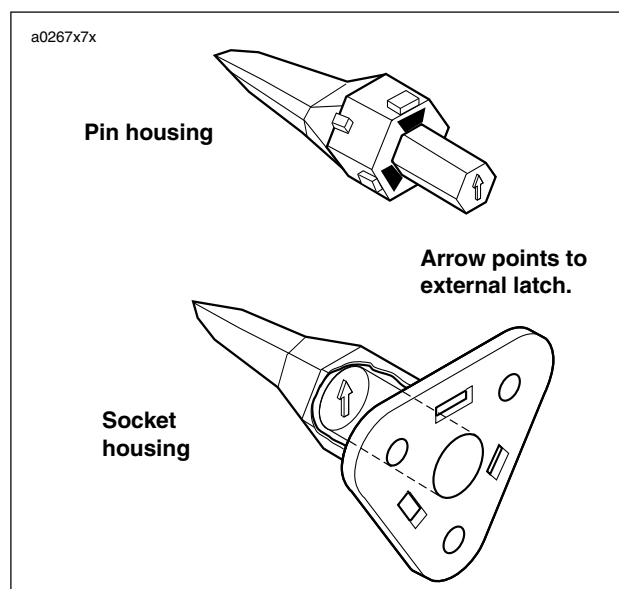

Figure B-2. 3-pin Locking Wedge Orientation
- The conical secondary locking wedge of the 3-pin connector must be installed with the arrow pointing toward the external latch. See Figure B-2.